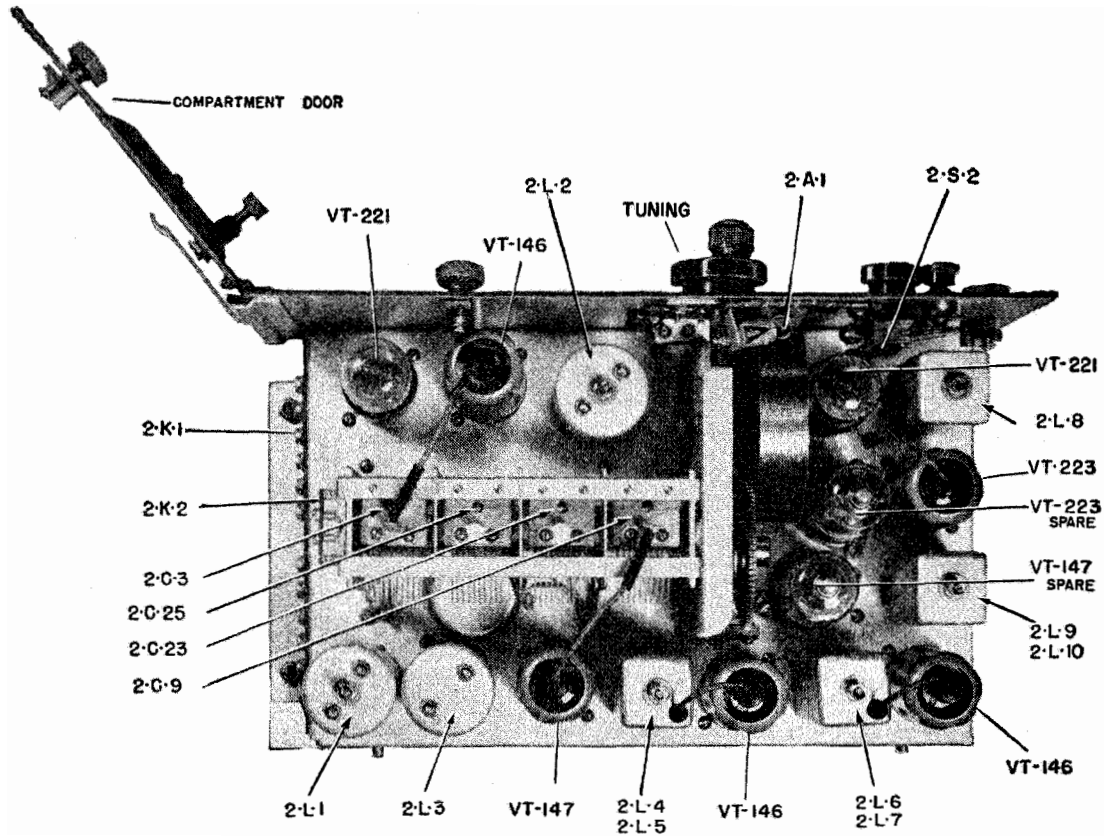

FIG. 32. RECEIVER CHASSIS (TOP VIEW)
29. Alignment of the Receiver (FIGS. 32 & 33)